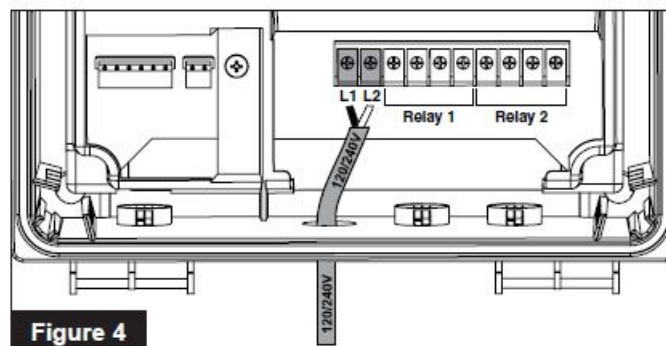

Figure 4
temporarily wire to screw terminals marked L1 and L2/N (see Figure 4 on next page).
3. Bring 120/240 VAC power into the high voltage wiring compartment and wire to screw terminals marked L1 and L2/N (Figure 4).